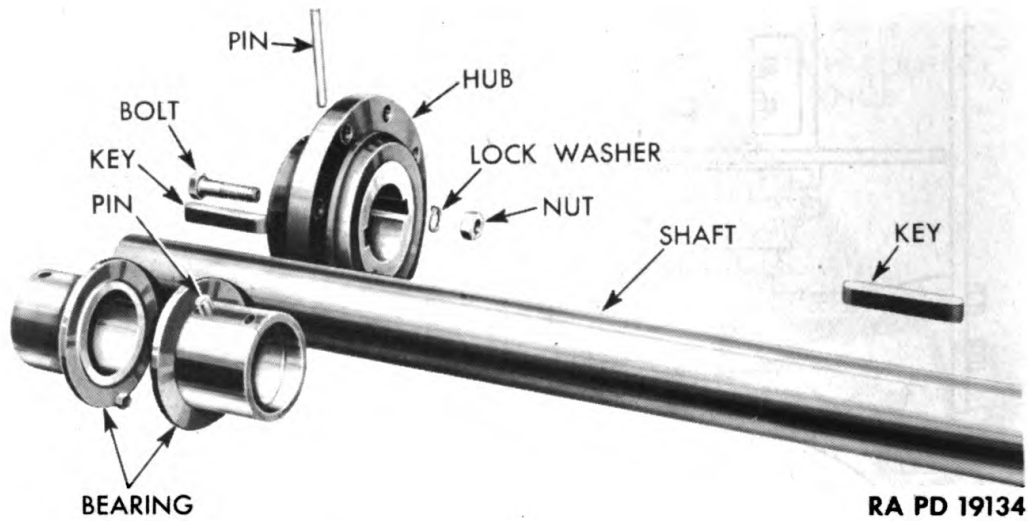

Figure 226 — Winch Drum Shaft and Worm Gear Hub — Disassembled
94. ASSEMBLY (figs. 226 to 231).